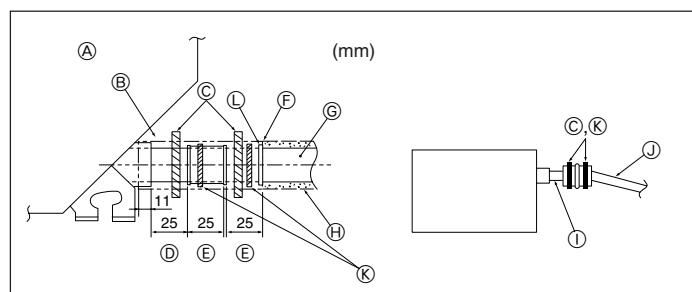

Fig. 3-5
- ⑯ Up to 85 cm
1. Connect the drain socket (supplied with the unit) to the drain port. (Fig. 3-5)